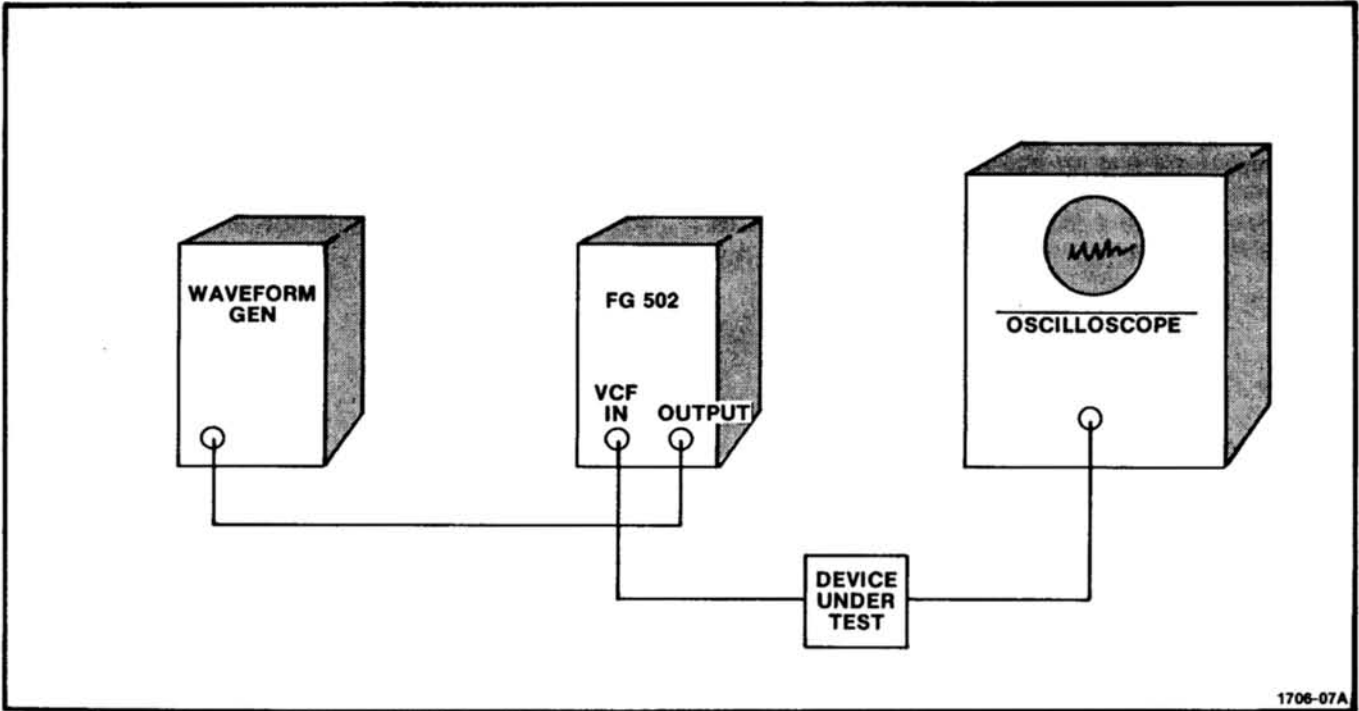

Fig. 2-8. Analyzing circuit or system response.
1. Connect the equipment as shown in Fig. 2-8.